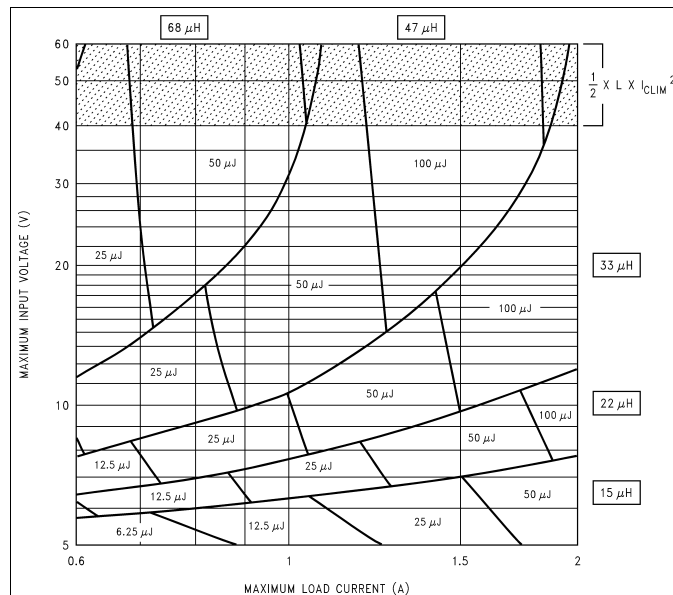
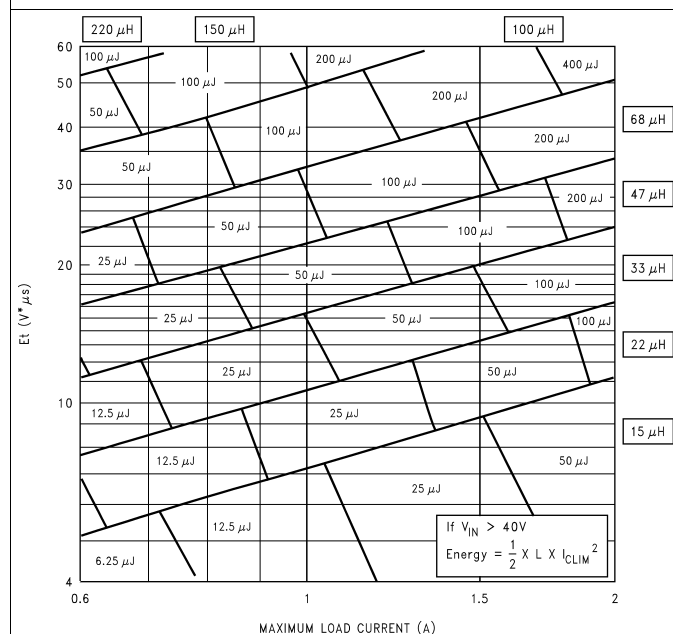

Figure 33. LM2593HV 3.3-V
Figure 35. LM2593HV Adjustable Voltage
See application note *AN-1197 Selecting Inductors for Buck Converters* (SNVA038) for detailed information on inductor selection. For a quick-start, see the nomographs provided in Figure 33 to Figure 35. To widen the choices to a more general selection of available inductors, the nomographs provide the required inductance and also the energy in the core expressed in microjoules (μJ), as an alternative to just prescribing custom parts. The following points must be highlighted:
5. Figure 35 shows the inductor selection curves for the adjustable version. The y-axis is Et , in Vμs. It is the applied volts across the inductor during the ON time of the switch ($V_{IN} - V_{SAT} - V_{OUT}$) multiplied by the time for which the switch is on in μs. See Example 3.
- Because input voltage is less than 40 V, a first pass inductor selection is based upon inductance and rated maximum load current. Choose an inductor with the inductance value indicated by the nomograph Figure 35 and a current rating equal to the maximum load. But first calculate E_t for the given application. The duty cycle is Equation 5.
- Therefore, looking at Figure 33, quick-select a 47- μH , 2-A inductor (designed for 150-kHz operation) for this application.
- Confirm that it is rated to handle 200 μJ (see Figure 35) by the procedure shown in *AN-1197 Selecting Inductors for Buck Converters* (SNVA038) and that the losses are acceptable. (If the DC input voltage had been greater than 40 V, consider e_{CLIM} as in Example 2).